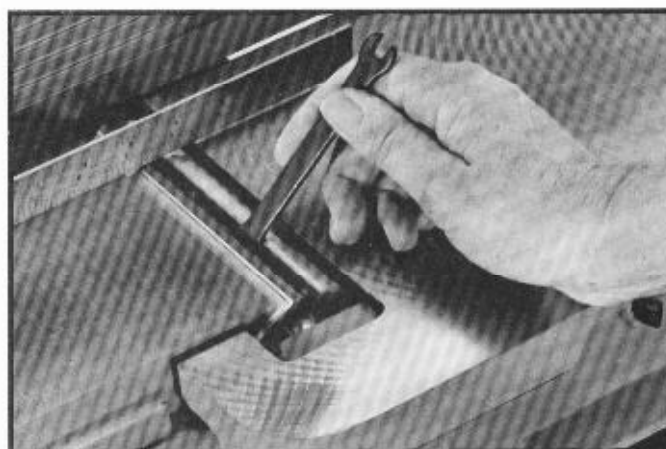

Fig.19
5. If the knife is high or low at either end, slightly turn the four screws in the knife locking bar CLOCKWISE to loosen the knife using the wrench supplied, as shown in Fig. 19. Since the knives are spring-loaded they will adjust themselves to the proper cutting height, as long as the straight edge is kept over the cutterhead. Refer to Fig. 38 to insure that the knife, knife locking bar and knife locking screws are positioned correctly in the cutterhead.